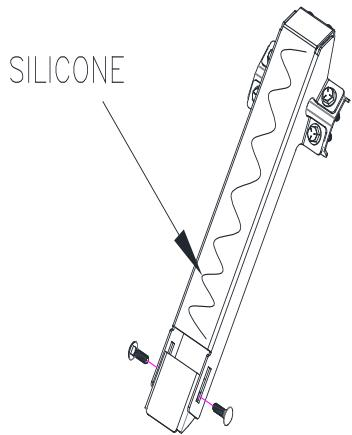

Fig. 2
4. Assemble the sliding lock brackets marked "LBSYM" to both of the outer brackets marked "DOB" & "POB" using the supplied $\frac{1}{4}$ -20 carriage bolts, washers, and locknuts (Fig. 2). Tighten the hardware enough that the lock brackets will remain in place but can still be moved by hand.
15. Apply a generous amount of silicone to the faces of the brackets that the visor will rest against (Fig. 2).